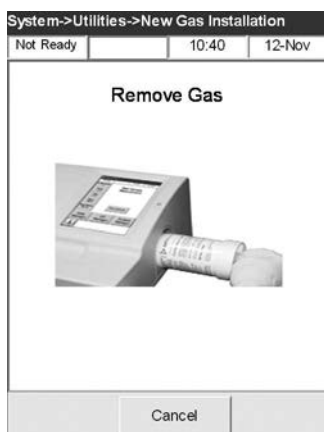

Fig. 6-32 Remove Gas Bottle
3. Unscrew the old gas bottle by turning the knob on the bottom counterclockwise (Fig. 6.32).